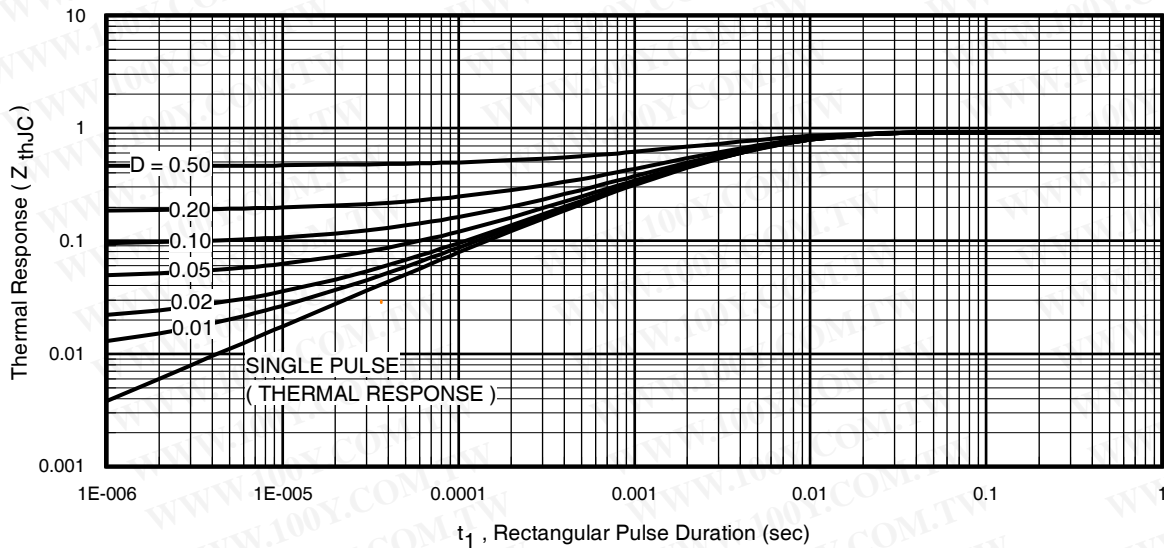
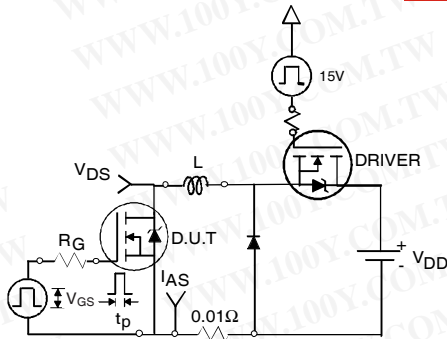

Fig 11. Maximum Effective Transient Thermal Impedance, Junction-to-Case
Fig 12a. Unclamped Inductive Test Circuit
- ① Repetitive rating; pulse width limited by max. junction temperature. (See fig. 11).
- ② Limited by T_{Jmax} , starting $T_J = 25^\circ\text{C}$, $L = 0.27\text{mH}$, $R_G = 25\Omega$, $I_{AS} = 35A$, $V_{GS} = 10V$. Part not recommended for use above this value.
- ③ $I_{SD} \leq 35A$, $di/dt \leq 380A/\mu s$, $V_{DD} \leq V_{(BR)DSS}$, $T_J \leq 175^\circ\text{C}$.
- ④ Pulse width $\leq 1.0\text{ms}$; duty cycle $\leq 2\%$.
- ⑤ $C_{oss\text{ eff.}}$ is a fixed capacitance that gives the same charging time as C_{oss} while V_{DS} is rising from 0 to 80% V_{DSS} .
- ⑥ Limited by T_{Jmax} , see Fig. 12a, 12b, 15, 16 for typical repetitive avalanche performance.
- ⑦ This value determined from sample failure population. 100% tested to this value in production.
- ⑧ This is applied to D²Pak, when mounted on 1" square PCB (FR-4 or G-10 Material). For recommended footprint and soldering techniques refer to application note #AN-994.
3. Equation below based on circuit and waveforms shown in Figures 12a, 12b.
$Z_{thJC}(D, t_{av})$ = Transient thermal resistance, see figure 11)